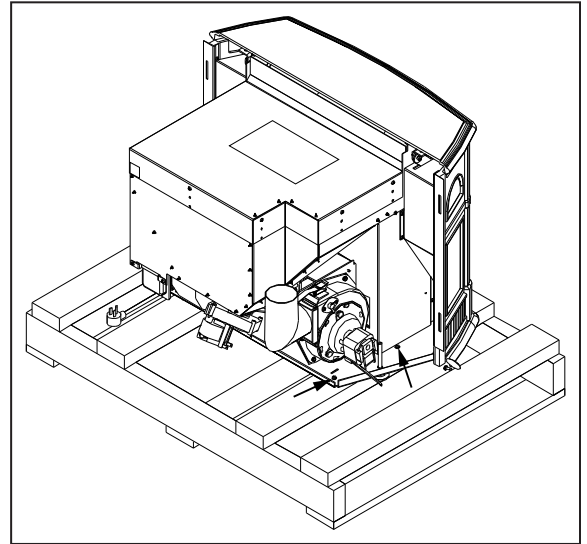

Figure 1: Removing Stove From the Pallet.
Use a flathead screwdriver or $\frac{5}{16}$ " socket to remove the four (4) screws that secure the Empress FPI to the pallet. Two (2) of the screws are shown in Figure 1 and the other two (2) are in the same location but on the opposite side; behind the circuit board and beside the power cord.